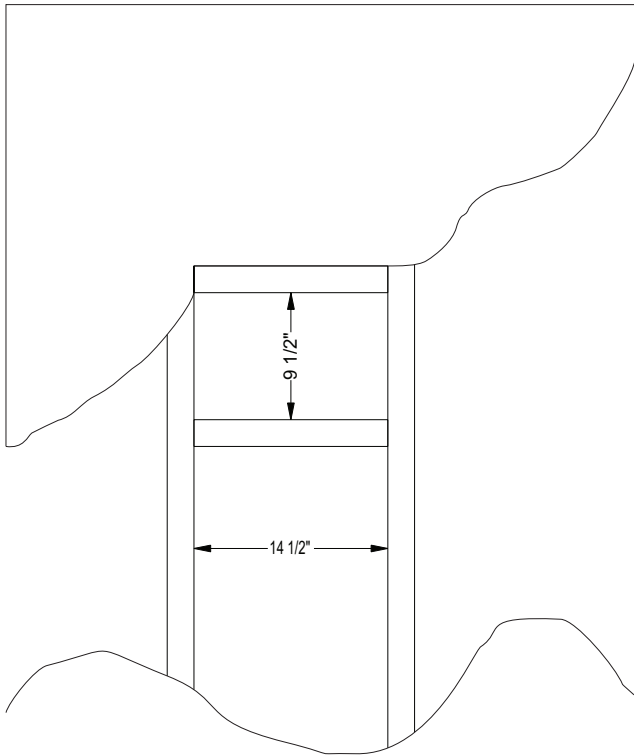

Figure 21
1. Once termination location has been determined build a frame with material that has the same dimensions as the current wall. As shown in **Figure 21**. The box must be 9-1/2 inches tall by 14-1/2 inches wide.